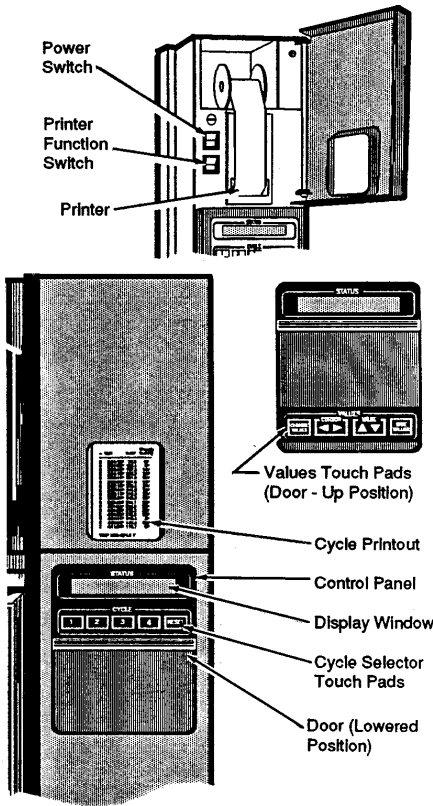

Figure 3-1. Turn Power On
3.3 Change Gravity Sterilizer Cycles, Cycle Values and Control Values (See Figure 3-1)